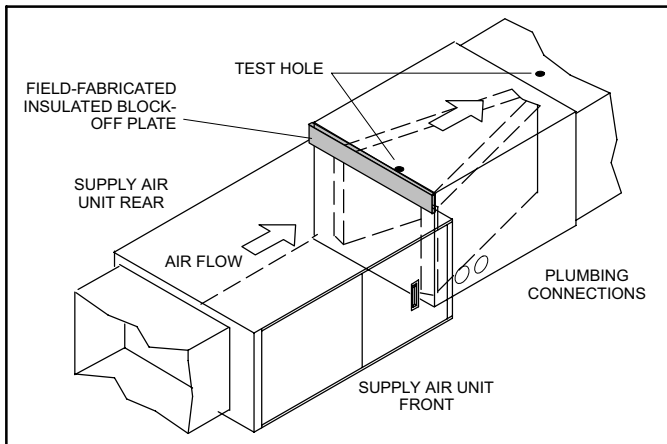

Figure 5. "D" Width Coil w/ "C" Width Furnace
7. **Applications using CH33-62 "D" width unit with "C" width furnace**—Figure 5 shows an application that includes a "D" width coil and a "C" width furnace. This application requires an insulated, field-supplied block-off plate be constructed to cover the open space on the coil housing.